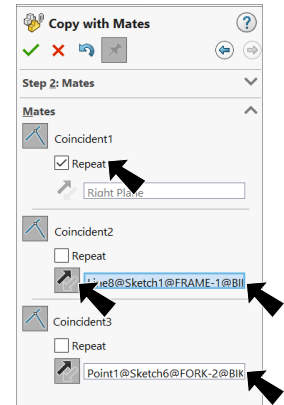

Fig. 16
Step 2: Mates, **Fig. 16**
click **Flip Mate Alignment** , **Fig. 16**